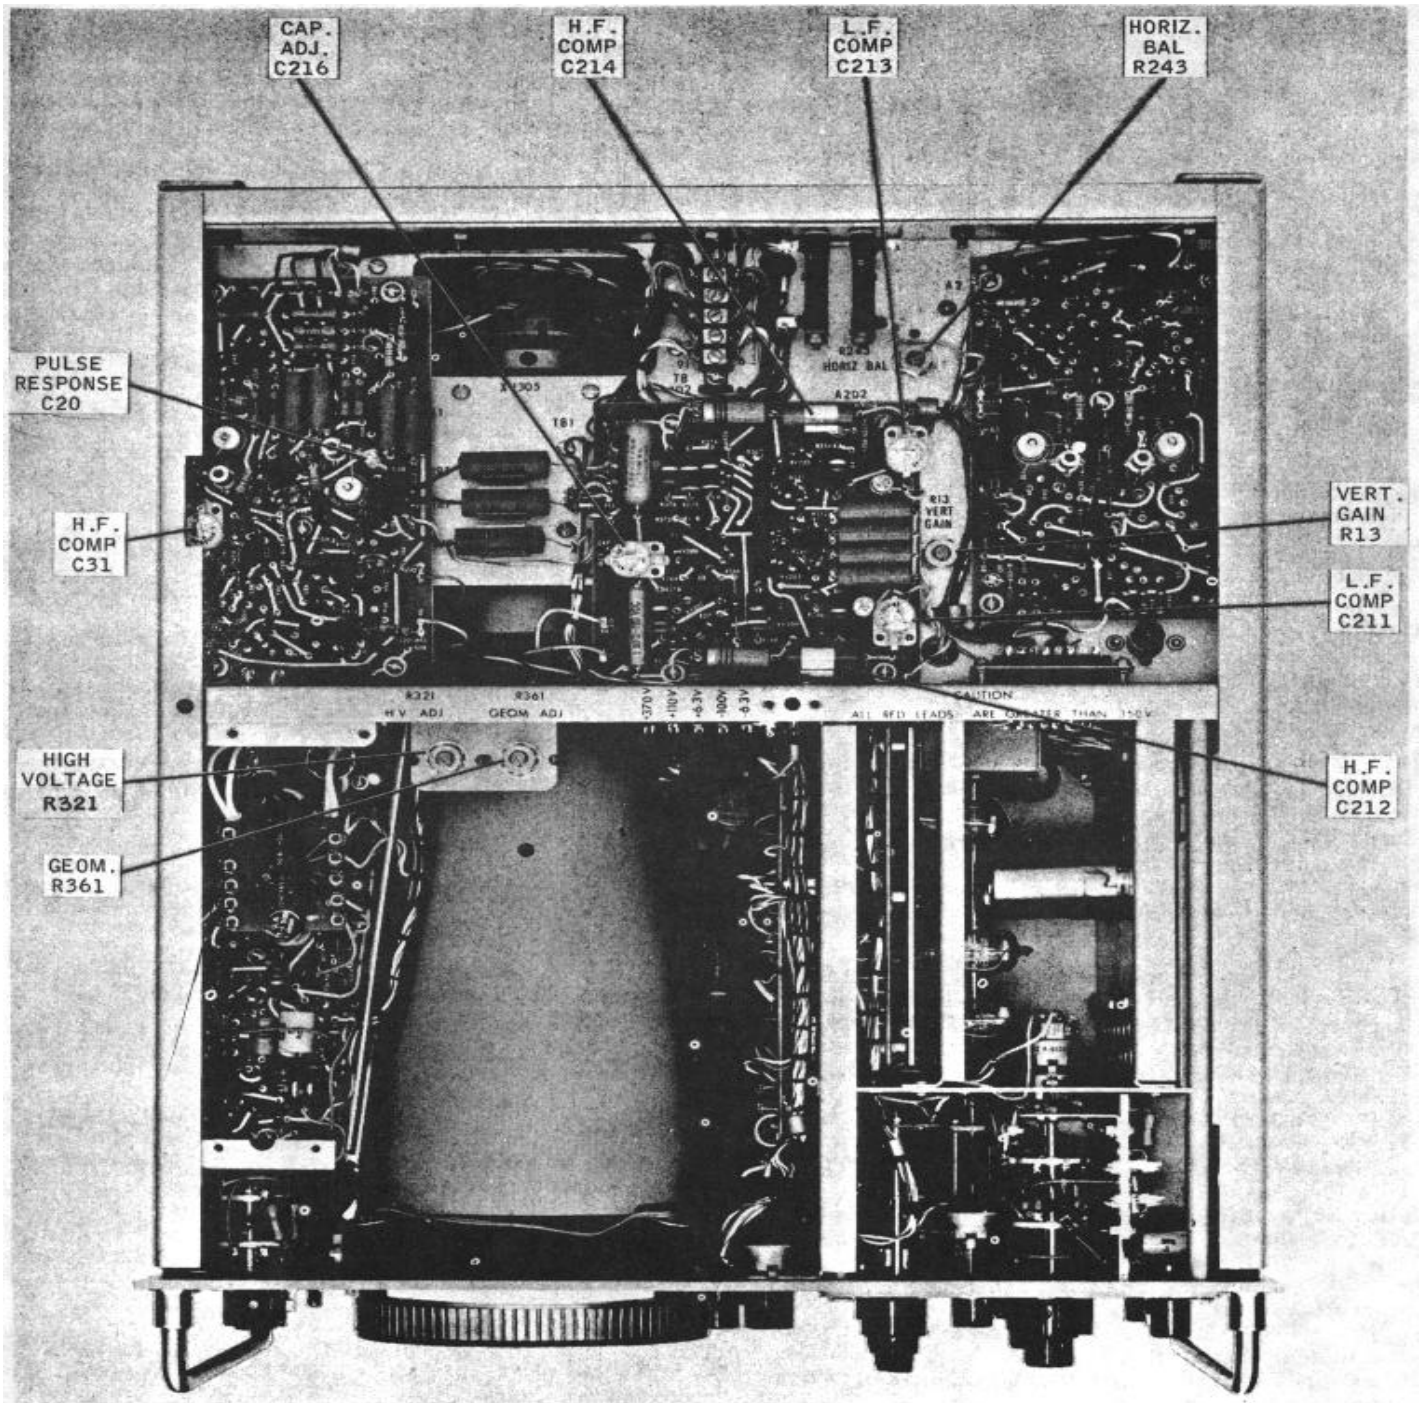

Figure 5-3. Top View, Location of Adjustments
b. HIGH-VOLTAGE POWER SUPPLY ADJUSTMENT. Location of the adjustment for the - 1500-volt-high-voltage power supply is shown in figure 5-3. Test points are shown in figure 4-15.
(1) With the MX-2930B/USM Vertical Plug In installed, apply a signal from the amplitude CALIBRATOR to the vertical INPUT. Set the SWEEP MODE control just out of PRESET and position the vertical trace (4-cm high) parallel and next to the left edge of the graticule. Note any non linearity and reposition the display at the right edge of the graticule. Again note any non linearity in the display. Remove all vertical input signal-, and set the SWEEP MODE control to FREE RUN. Position the trace (10-cm long) alternately at the top and the bottom of the graticule, noting in each case any deviations from a straight line trace as compared to the graticule edge.
(2) If there is excessive distortion in the vertical or horizontal traces, change the adjustment of the Geometry control, R361, to correct this. The trace should be moved from one end to the opposite end of the graticule both horizontally and vertically to compare the effects of any adjustments. See figure 5-3 for location of R361.
(c) Adjust the Balance control R243 (see figure 5-3) to center position the spot in the center of the CRT graticule.
(j) Adjust the LF. Comp capacitors C211 and C213 (see figure 5-3) for an approximately flat-topped square wave, if necessary.
(k) Increase the Cap Driver Adj. trimmer, C216 (see figure 5-3), until some overshoot appears on the left side of square wave; then readjust until this overshoot just disappears.
(d) Adjust the Vert Gain control, R13 (see figure 5-3), to produce exactly 4-centimeters vertical deflection on CRT. Disconnect the voltmeter calibrator.
(d) If necessary, adjust the Hi Freq Comp capacitor, C31 (see figure 5-3), to produce a flat-topped square wave. Ignore any high-frequency ringing at this time.
(e) Center the square wave vertically, and adjust the Pulse Response Adjust capacitor, C20 (see figure 5-3), to obtain the best leading edge on the square wave. Any ringing in step d should now decrease in amplitude. Disconnect the square wave generator.